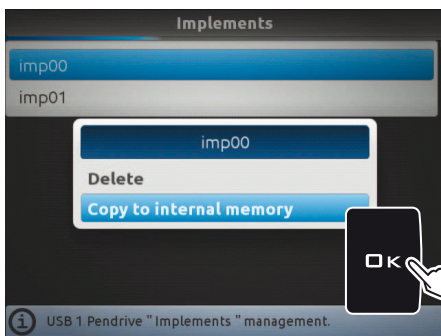

Fig. 300
- Select the item **Copy to internal memory** (Fig. 300) and press **OK**;